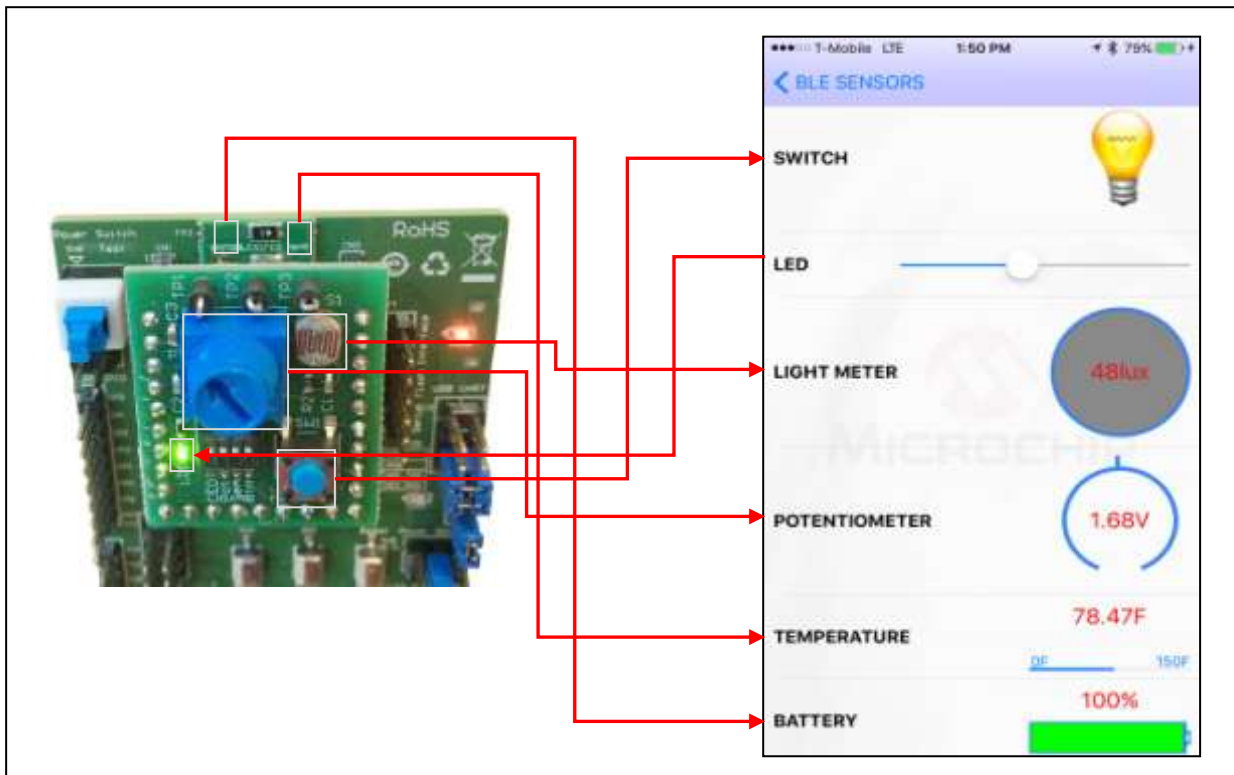

Figure 24: BLE Data Flow from Sensor Board Peripheral IO to BLESensorAPP
4. Launch the APP from the SmartPhone. Note that in this example, the iOS version is used as shown in right hand side of figure 24 below.
Figure 24 illustrates the data flow from RN4870 Sensor Peripheral IO to SmartPhone APP. The data moving from the Sensor Board to the APP is performed by GATT Notifications. The script polls the sensor values, such as Switch, Light Meter, and writes the values into the appropriate GATT Characteristic. If the values changes, a GATT Notifications is sent to BLESensorAPP where the APP updates the GUI.